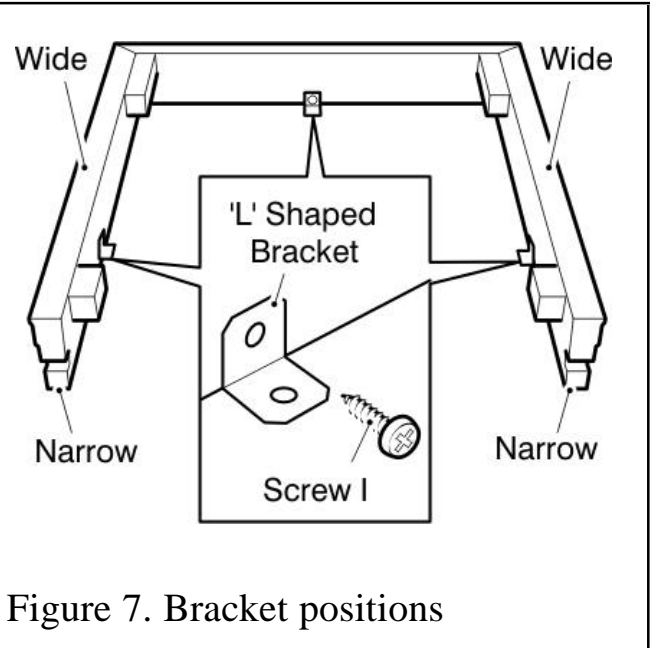

Figure 7. Bracket positions
1. There are three 'L' shape brackets supplied with the heater (See figure 15). To fix the brackets to the spacer frame there are three 'I' screws (See figure 15). The spacer frame has a stepped outer. The rear of the spacer is the narrow side - when positioned against the wall or fixing surface the steps should widen as they come closer to you. Position and screw the 'L' shaped brackets to the rear of the spacer frame as shown in figure 7.